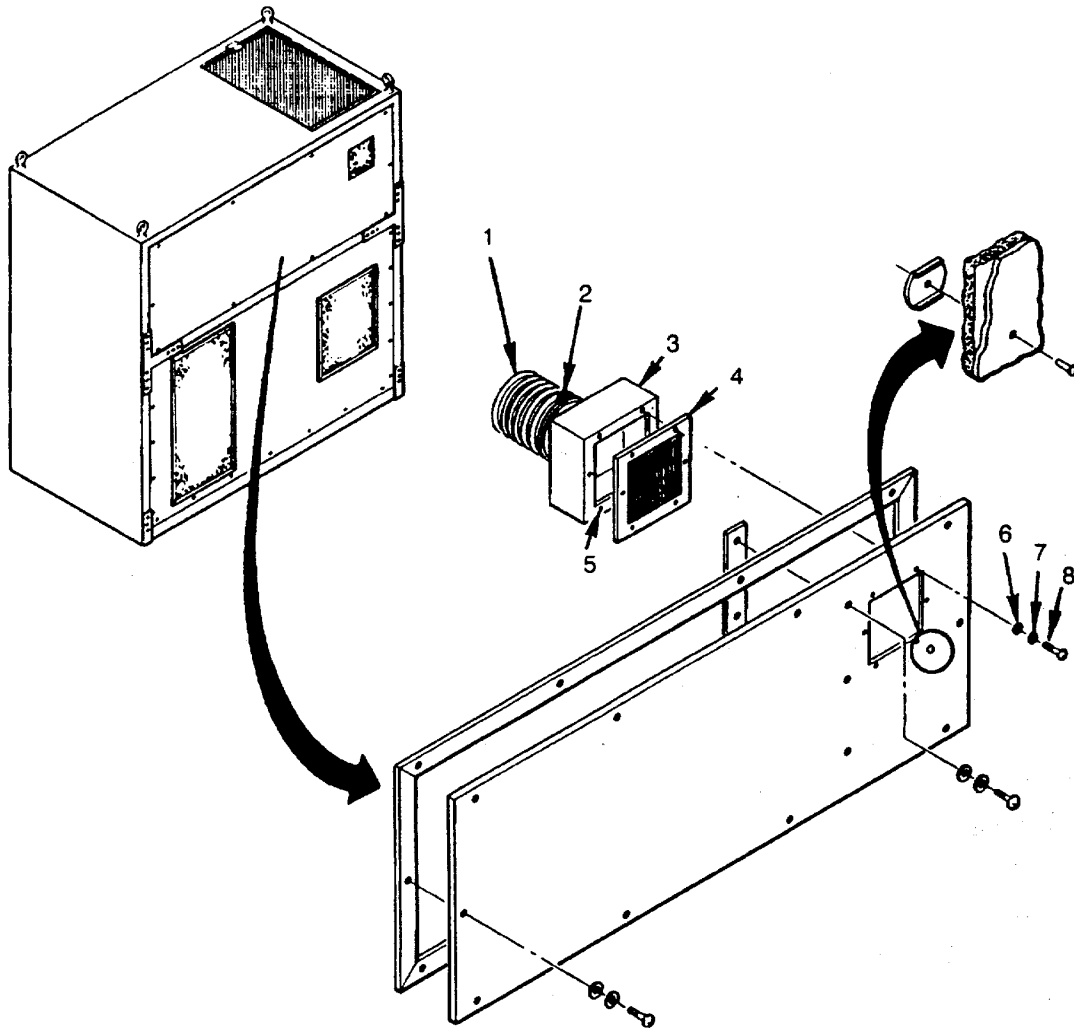

Figure 6-3. Fresh Air Box
1. Check that box is not bent, cracked, or punctured. Replace box, if defective (see Figure 6-3).